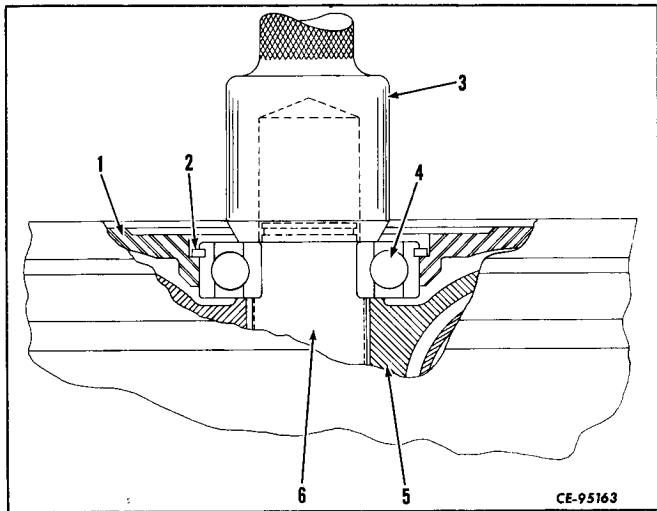

Figure 3-36
Using the output shaft bearing installation tool (3, Fig. 3-36) (refer to "SPECIAL TOOLS"), drive the housing (1) and bearing (4) assembly down on the output shaft (6) and turbine wheel (5) assembly. Bearing must bottom on shaft shoulder and turbine wheel hub (5).